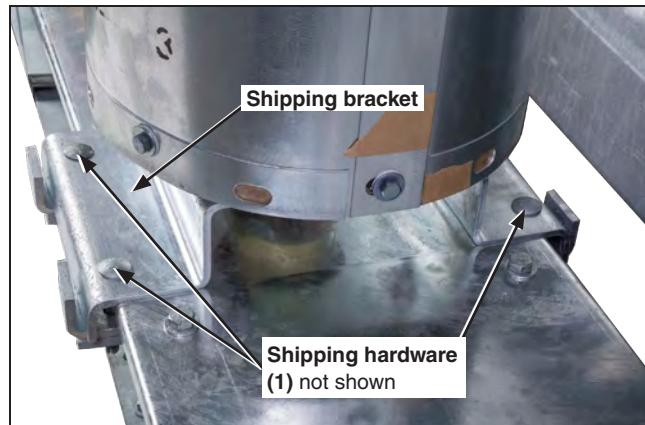

Figure 12. Shipping clamps for the Series 2000 Circuit-Switcher interrupters.
STEP 2. Remove the four $\frac{1}{2}$ -13-inch stainless steel hex nuts and Belleville washers used to attach the interrupter shipping bracket to the threaded studs on the interrupter. See Figure 12. Discard the shipping bracket but retain the Belleville washers and nuts for re-use in Step 4(f) on page 19.